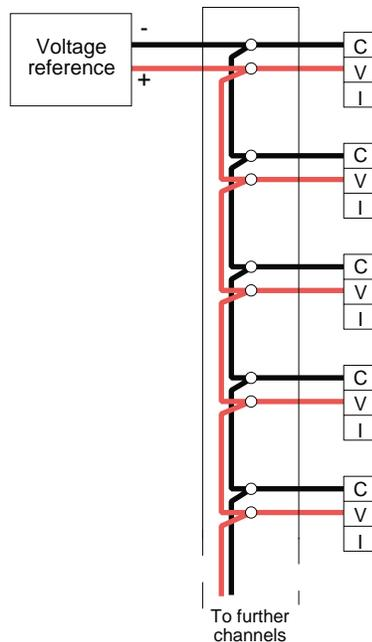

Figure 3.2.1 Calibration wiring (8-channel input board)
1. Connect all the channels to be checked to the voltage reference as indicated in figure 3.2.1. Ensure that the recorder rear terminal cover is in place after wiring.